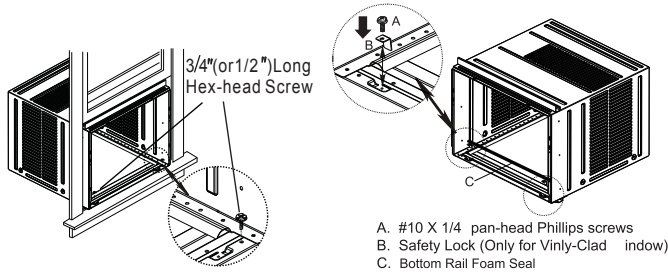

Fig. 13
4. For wooden window: Fasten cabinet to window inner sill with two screws into holes (Fig.13) (You may wish to pre-drill pilot holes).